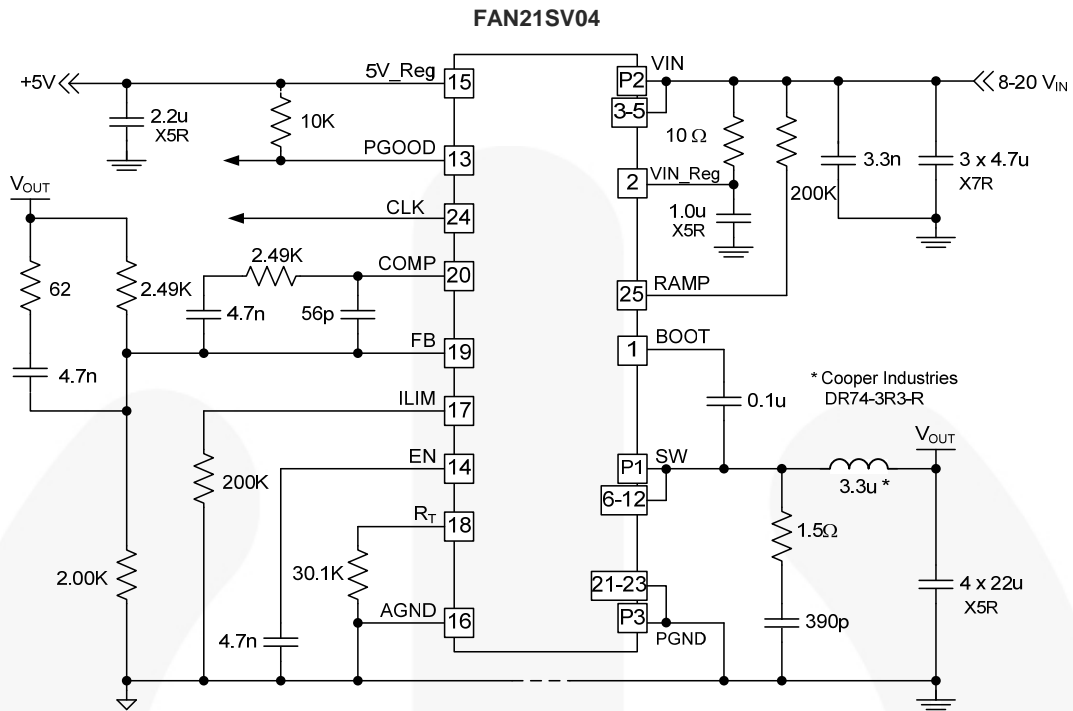
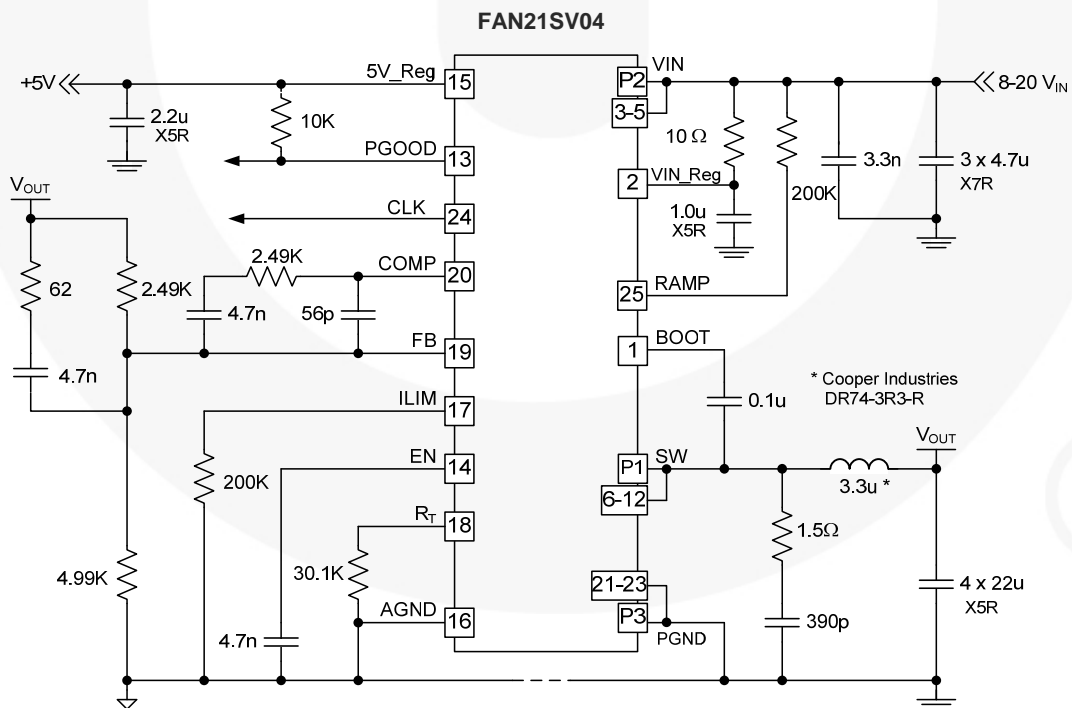

Figure 10. Single-Supply Application Circuit: 1.8 VOUT, 500 KHz, Master, 8 V – 20 V Input
Figure 11. Single-Supply Application Circuit: 1.2 VOUT, 500 KHz, Master 8 V – 20 V Input
Typical operating characteristics using the Figure 10 circuit;  $V_{IN}=12\text{ V}$ ,  $V_{CC}=5\text{ V}$ ,  $T_A=25^\circ\text{C}$ , unless otherwise specified.
4. Circuit values for this configuration change in Figure 10.
5. Circuit values for this configuration change in Figure 10.
Typical operating characteristics using the Figure 10 circuit.  $V_{IN}=12$  V unless otherwise specified.
For applications with  $V_{IN} < 6.5\text{ V}$ , FAN21SV04 can be used if  $V_{IN\_Reg}$  is provided with a separate low-power source  $>6.5\text{ V}$ .  $V_{IN\_Reg}$  supply should come up after  $V_{IN}$  during dual-supply operation. The  $V_{IN\_Reg}$  pin should always be decoupled with at least a  $10\text{ }\Omega$  resistor and a  $1\text{ }\mu\text{F}$  ceramic capacitor (see Figure 10, Figure 11).